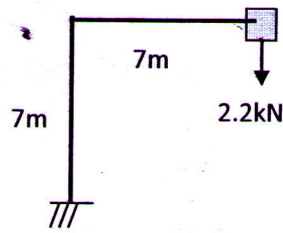

Figure 3
| b) | The sign board of weight 2.2 kN is supported by a cantilevered steel pipe as shown in Figure 3. If the moment of inertia (I) and modulus of elasticity (E) of the pipe are $50 \times 10^{-6} \text{ m}^4$ and $200 \times 10^6 \text{ kN/m}^2$ respectively, determine the vertical displacement of the centre of the sign board using strain energy method. | 6 |